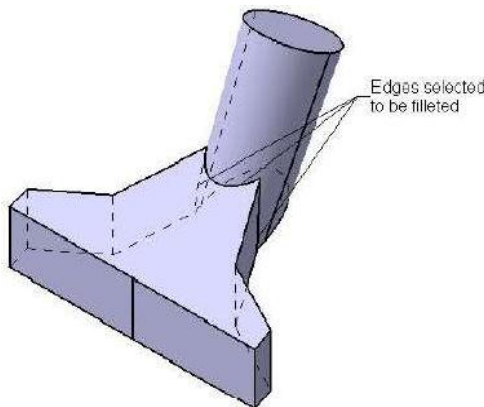

*Figure 5-79 Sketch for the **Pocket** feature*
- Create the third feature of the model, which is a cut feature. It will be used to remove the unwanted portion of the second feature, refer to Figures 5-79 and 5-80.
9. Select the ZX plane and invoke the **Sketcher** workbench. Draw the open sketch, as shown in Figure 5-79, and exit the **Sketcher** workbench.